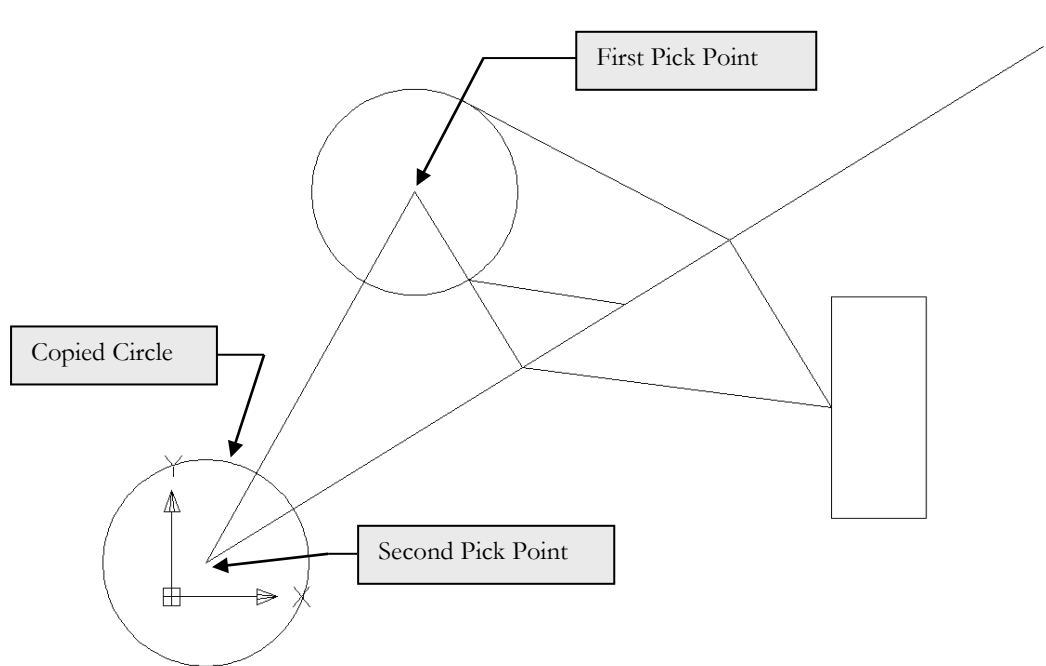

FIGURE 2-3.4 Copied circle; also indicates points selected
8. Pick the **Center** of the **circle** as the base point (Figure 2-3.4).
9. Pick the **Endpoint** of the angled line in the lower left corner. (See Figures 2-3.4 and 2-3.5.)
When you need to *Move* or *Copy* something to a very specific location, you can type in the distance and angle from the original entity (i.e., use the first point as displacement). This is very useful when you do not have any entities drawn that represent this distance and angle (e.g., as per the steps when you copied the circle, Figure 2-3.4).